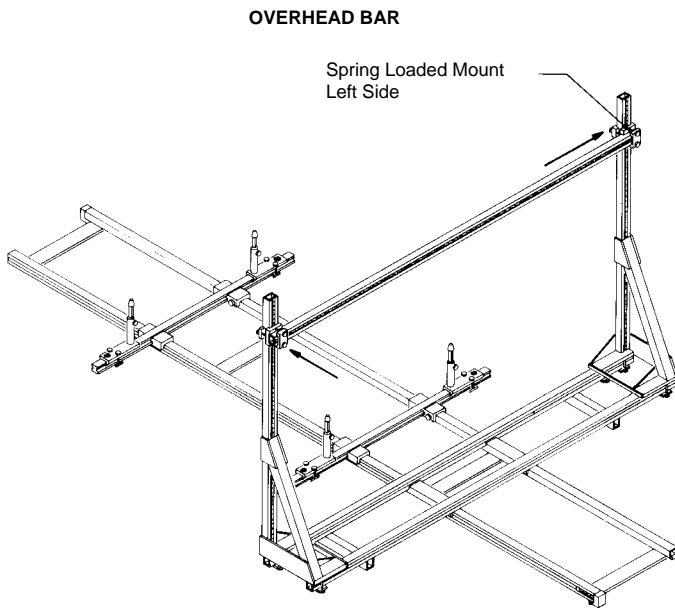

Figure 8
15. To install overhead bar, slide bar into left side mounting (spring loaded) to the 'stop'. (See Figure 8.) Attach overhead bar to right side mounting using 'captured screws' on bar assembly.